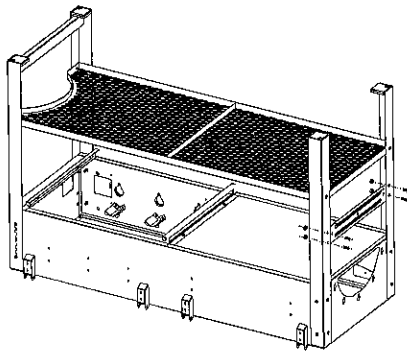

Fig. 5
*Locate:* Fire Box Support Brace, (4) M6x15 bolts, (4) M6 KEPS nuts
Refer to Fig. 5 and Place the Fire Box Support Brace **BETWEEN** the Legs on the **RIGHT** side of the Cabinet, so that the **LEDGE** is at the **TOP** and facing through the Legs. Fasten to **BOTH** legs with (2) M6x15 bolts and (2) M6 KEPS nuts on each Leg